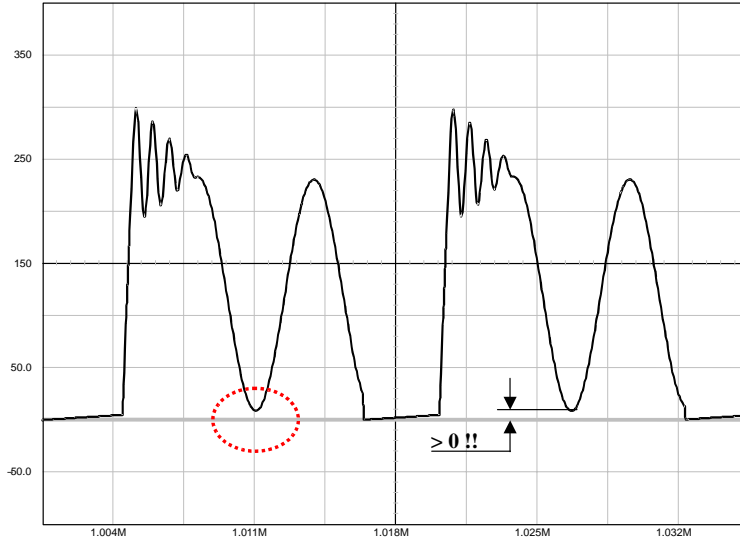

Figure 26. The Drain–Source Wave Shall Always be Positive . . .
1. In any case, the lateral MOSFET body–diode shall never be forward biased, either during startup (because of a large leakage inductance) or in normal operation as shown by Figure 26.